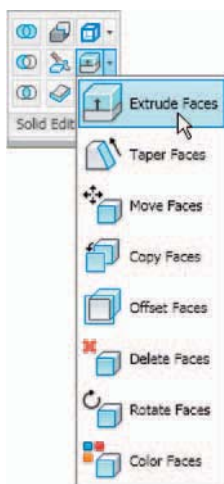

Fig. 18.4 The **Extrude Faces** tool from the **Home/Solid Editing** panel
6. Click the **Extrude Faces** tool icon in the **Home/Solid Editing** panel (Fig. 18.4). The command line shows:
2. Click on the **Move Faces** tool in the **Home/Solid Editing** panel (see Fig. 18.4, page 366). The command line shows:
2. Click on the **Offset Faces** tool icon in the **Home/Solid Editing** toolbar (see Fig. 18.4, page 366). The command line shows: